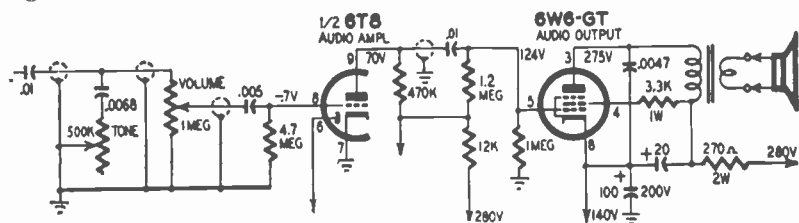

Fig. 3-N. Typical audio amplifier and output circuits.
**SERVICE:** Check by substitution, all tubes beginning with the sound take off point, including audio if amplifiers, audio detector and output tubes (Fig. 3-N). Tune in pix. Adjust volume control near maximum position. If no sound, check speaker cable. If hum or buzz are present, speaker and cable are satisfactory. If this condition is noted on only one or several channels, the individual oscillator slugs in the tuner may require adjustment.